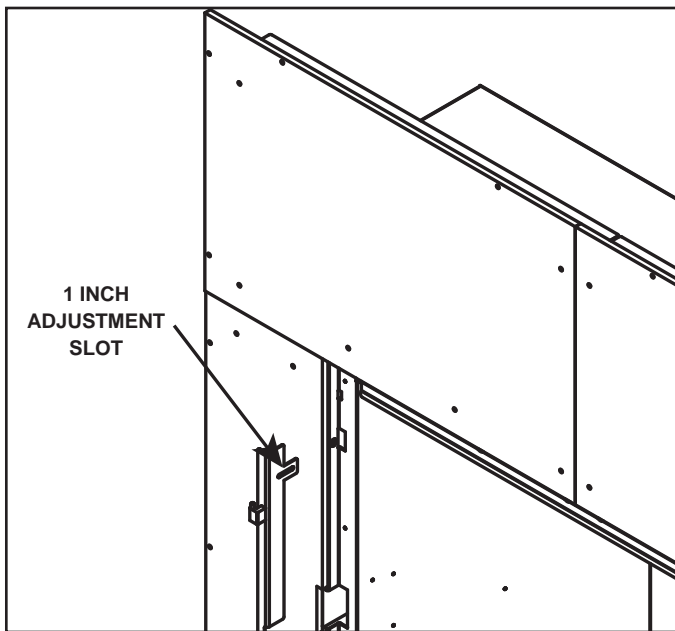

Figure 3. Adjustment Slot
**NOTE:** These doors are adjustable so that they can overlap finish material 0 – 1 in. thick that has been installed on top of the 1/2 inch factory-installed non-combustible material. See Figure 3.